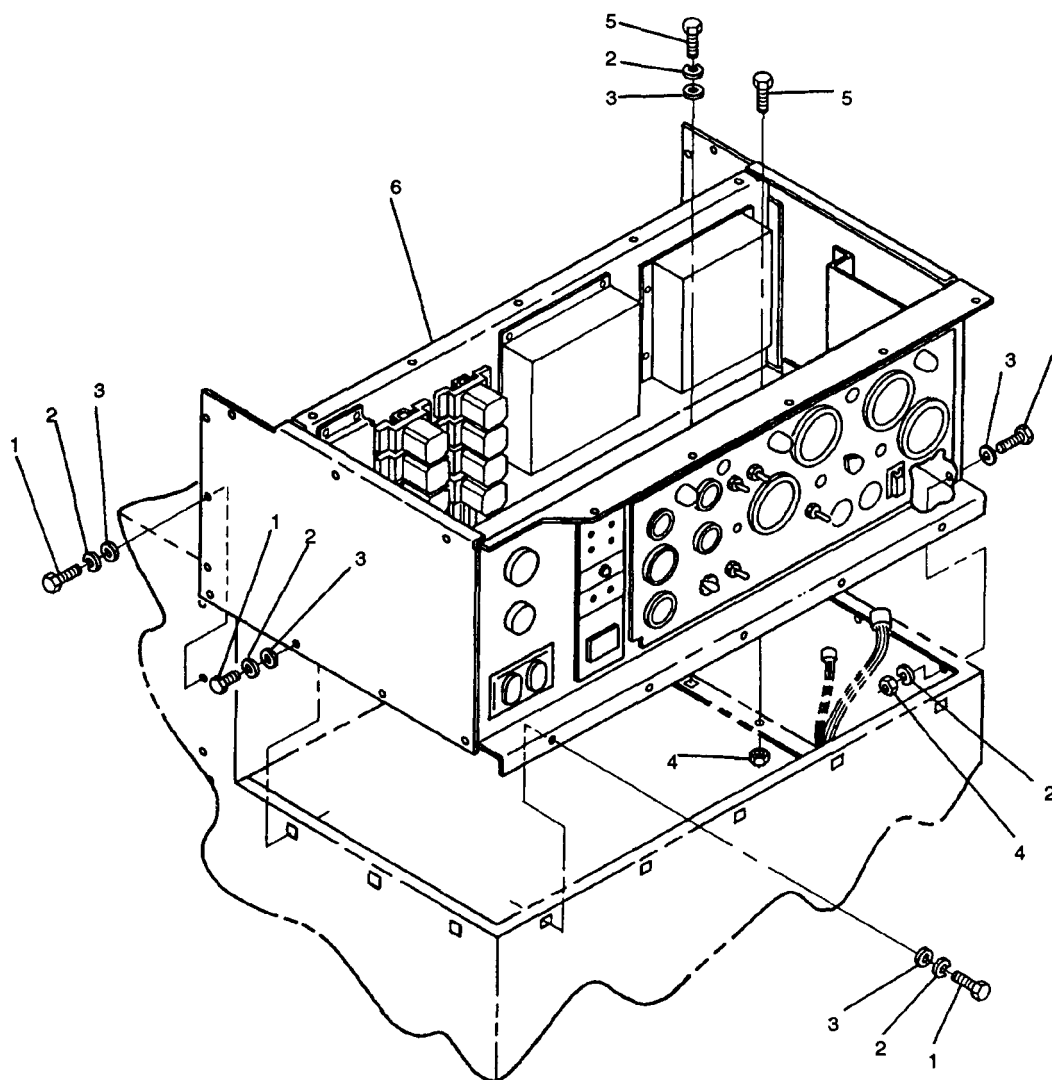

FIGURE 2-10. Control Box Assembly
- e. Remove bolts (1 and 5, FIGURE 2-10), lockwashers (2), flatwashers (3), nuts (4), and control box assembly (6) from generator set.
- a. Install control box assembly (6, FIGURE 2-10) on generator set with bolts (1) and (5), flatwashers (3), lockwashers (2), and nuts (4).